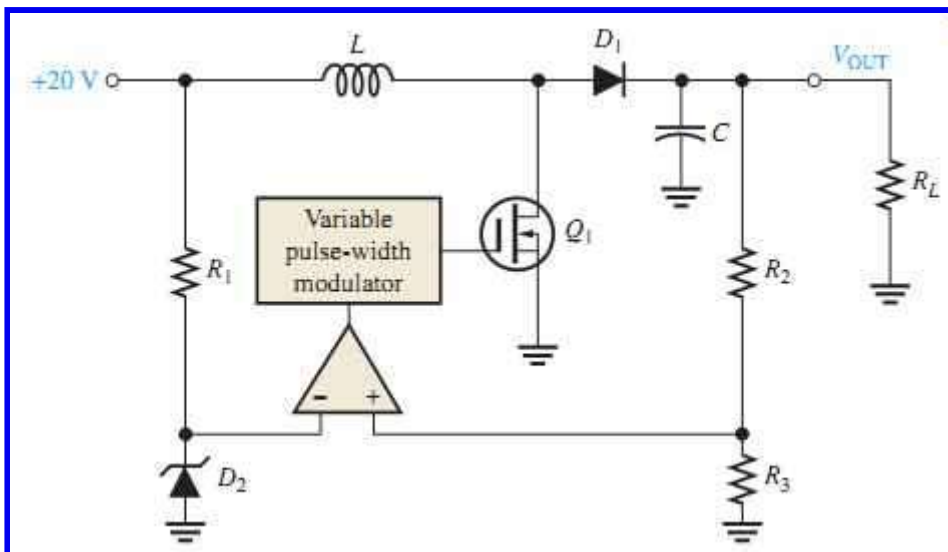

FIG. 50
18. When does the diode in FIG. 50 become forward-biased? D1
19. If the on-time of Q1 in FIG. 50 is decreased, does the output voltage increase or decrease?